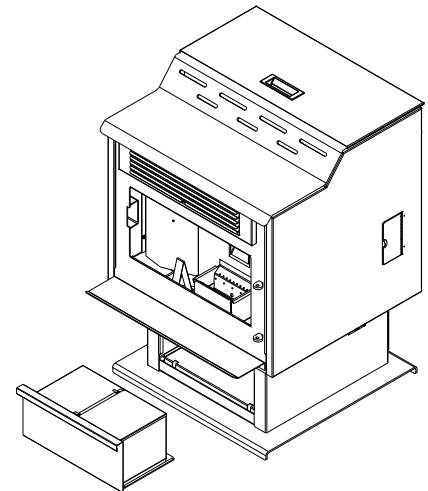

Figure 24
- f. Periodically remove and empty the ash drawer (see Figure 24) below the ash lip. Dispose of ashes properly. (See "ASH REMOVAL" above)